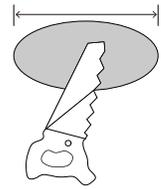

Fig. 2
2. Open the junction box cover and remove the appropriate knockout(s) on the side panel. Install the appropriate cable clamp(s) (not included) and insert the electrical supply cable through the cable clamp. Connect the supply wires to the fixture wires by using three (3) connectors. (Fig. 2) See **Electrical Connections** section below.